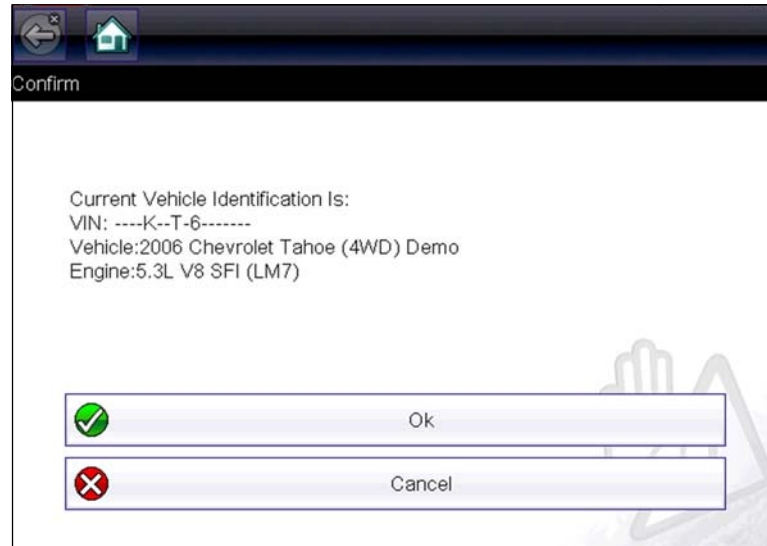

Figure 6-3 Vehicle confirmation screen
- a. Instant ID may occur, as indicated by an audible "beep" sounded within 5 seconds after the diagnostic tool turns on. Select the **Scanner** icon, then wait for the vehicle confirmation screen (Figure 6-3) and select **OK** to continue. Then proceed to **step 6**. See Instant ID, on page 33, for additional information about this function.
- b2.) Once the vehicle has been identified, the vehicle confirmation screen displays (Figure 6-3). If the vehicle information is correct, select **OK** to continue, then proceed to step 6.